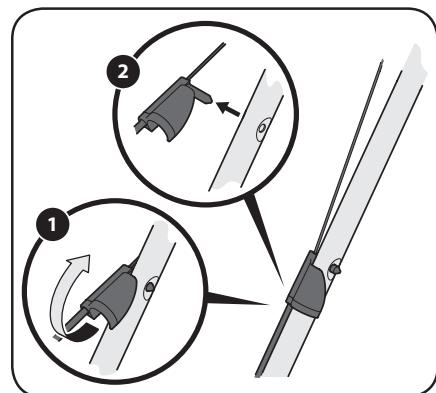

Figure 4-3
- Rotate the drive cable fitting located on the left upper handle upward. See Figure 4-3.